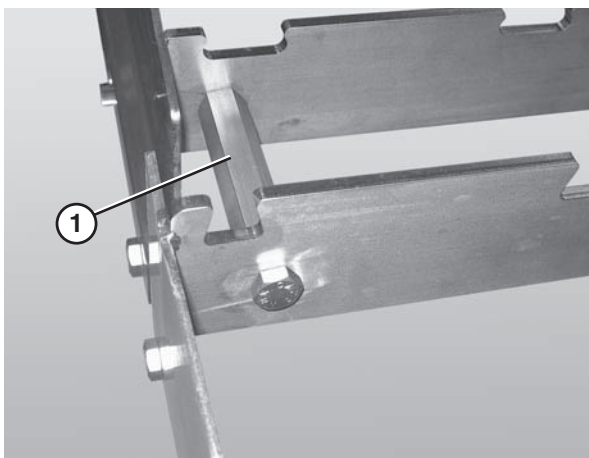

Figure 6
3. Connect the frame sections by bolting the hex post connectors (**Figure 6, item 1**) the sections of frame.